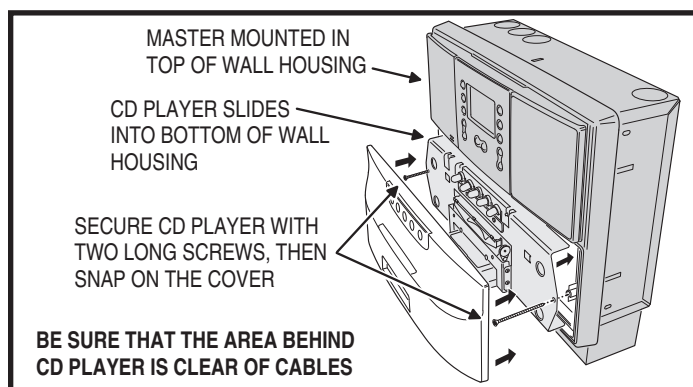

Figure 28. CD Player into Wall Housing
13. Attach the CD Player to the wall housing using the two long screws provided as shown in Figure 28. DO NOT OVERTIGHTEN THE SCREWS THE FRAME MIGHT DISTORT OR CRACK!